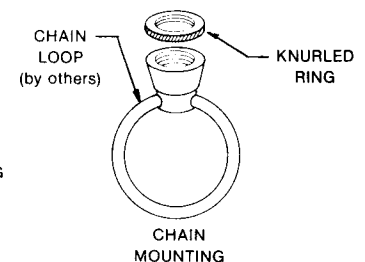

FIG. 1B
2. Replace STRAIN RELIEF CAP with 1/4-18 CHAIN LOOP (not supplied). See Fig. 1B.